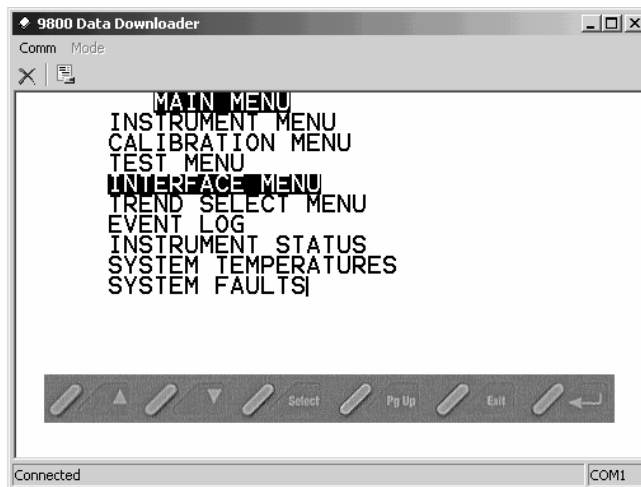

Figure 4-6. Remote Terminal
4. The screen should replicate the analyzer’s display similar to Figure 4-6. The user now has access to the analyzer control panel, with the buttons at the bottom of the screen replicating the buttons on the front panel of the analyzer. If a blank screen appears, terminate the connection as per step 2 below and reconnect.